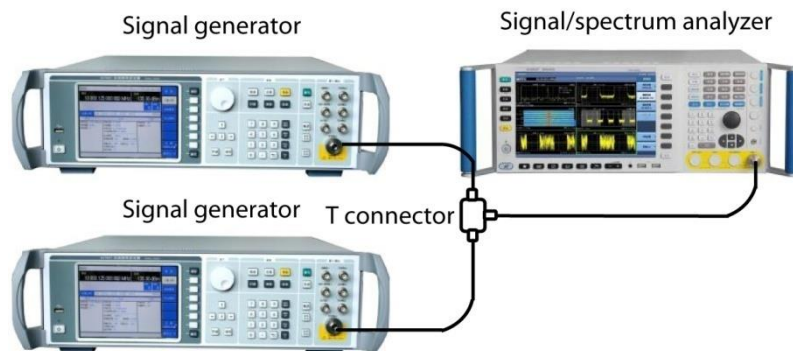

Fig. 4.7 Test instrument connection diagram of two input signals
Step 1. connect two signal sources to the RF input port of the analyzer as shown in Fig. 4.7.
In this section, a narrow resolution bandwidth is adopted to distinguish two signals with frequency interval of 50 kHz and amplitude difference of 60 dB. Output ports of two signal generators should be connected to the input port of the analyzer as shown in Fig. 4.7.